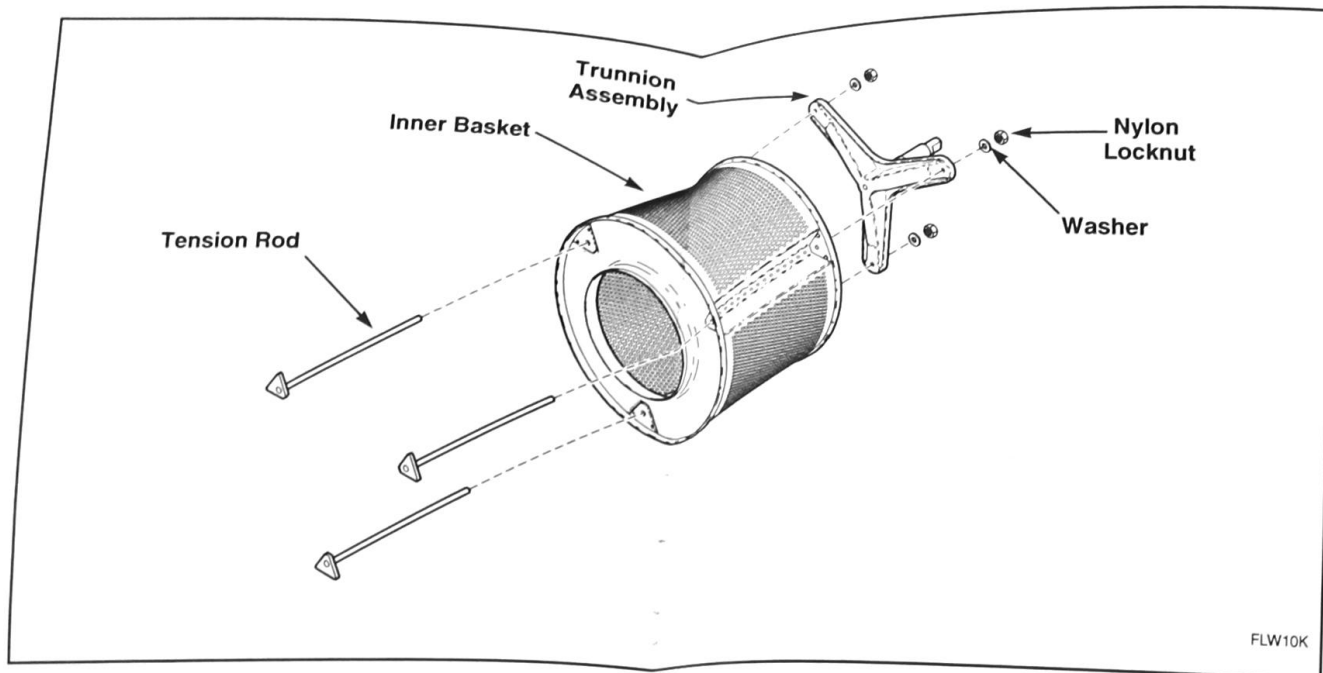
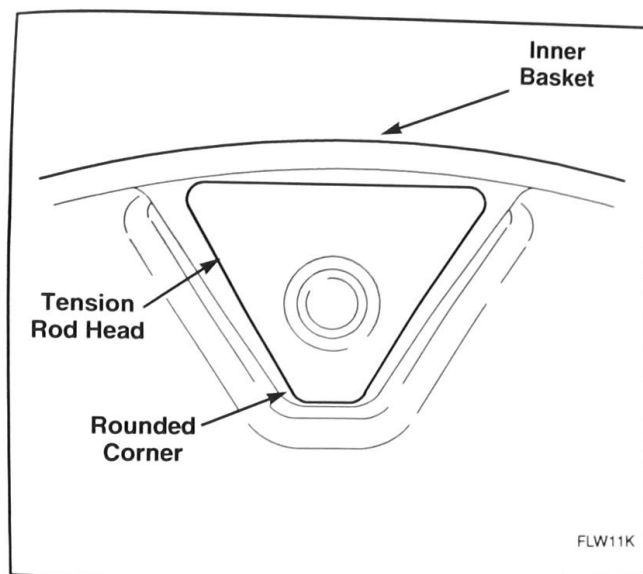

Figure 1
Figure 2
3. Remove nuts, washers and tension rods holding trunnion to inner basket. Refer to *Figure 1*.
6. Insert tension rods into inner basket. Refer to *Figure 1*. Position each rod so the rounded corner of triangular head faces the center of inner basket. Refer to *Figure 2*.